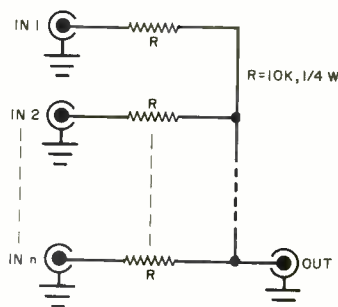

Fig. 5. Mixer combines several signals for use with one amplifier.
**Use Ideas.** You will probably want to use several Cabongas, each tuned to produce a different sound, at the same time to simulate different musical effects. To interconnect all Cabongas you might wish to use, you can do so with the passive summer shown in Fig. 5. Some attenuation of the signal will occur when the summer is used, but the output level will still be adequate to drive most instrument amplifiers.